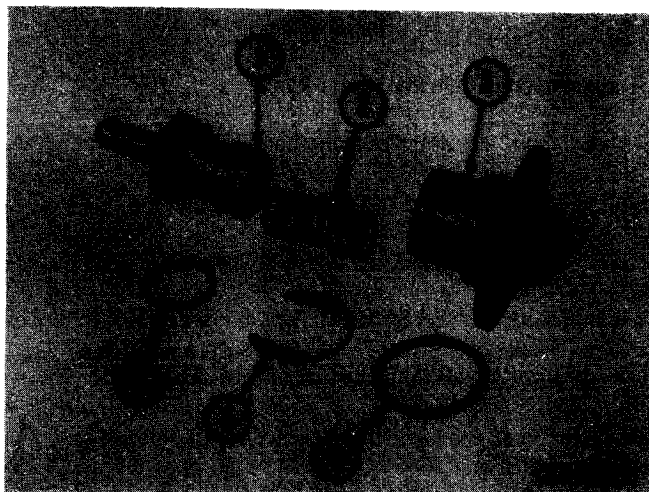

Figure 13-46
Remove retaining ring (5, Fig. 13-46) from cap (3). Separate inlet valve (1) from cap and remove spring (2). Remove "O" ring (4) from cap and "O" ring (6) from inlet valve.
Place "O" ring (6, Fig. 13-46) on inlet valve (1). Place spring (2) in inlet valve. Slide inlet valve into cap (3) and install retaining ring (5). Install "O" ring (4) on cap.